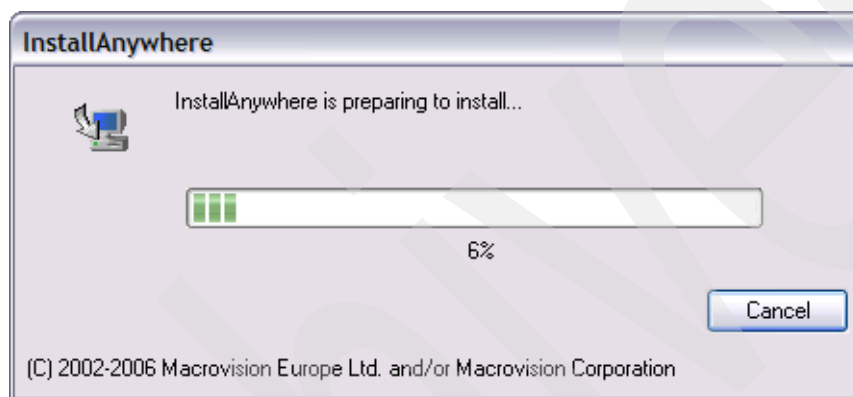

Figure 5-10 SM Manager Self Extract
1. Launch the installation executable file, which will be in SMIA-WS32-xx.xx.xx.xx for 32-bit Windows. This is a self extracting archive (see Figure 5-10).